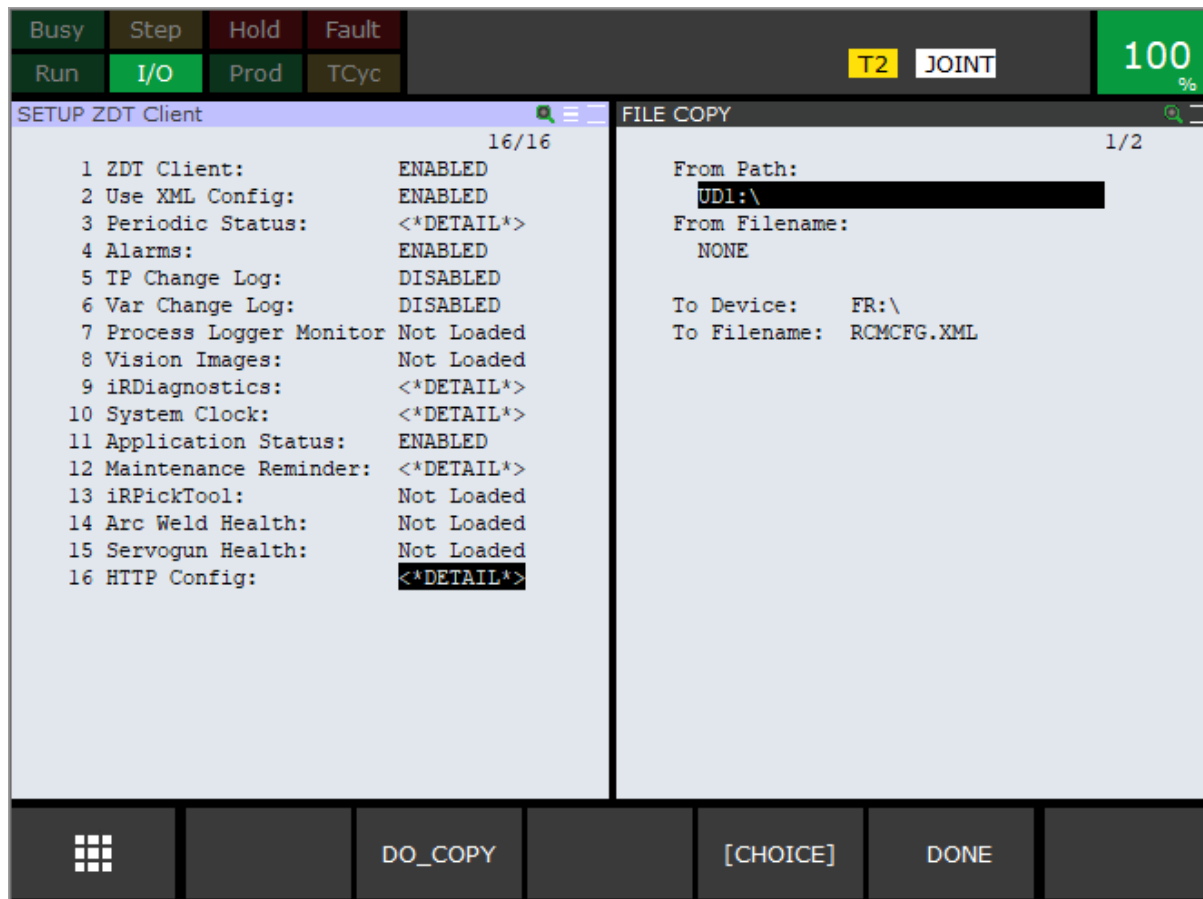

Figure 2.2.4.1 Import File
5. Choose **F4, [RCMCFG]**. You should see a screen similar to Figure 2.2.4.1.